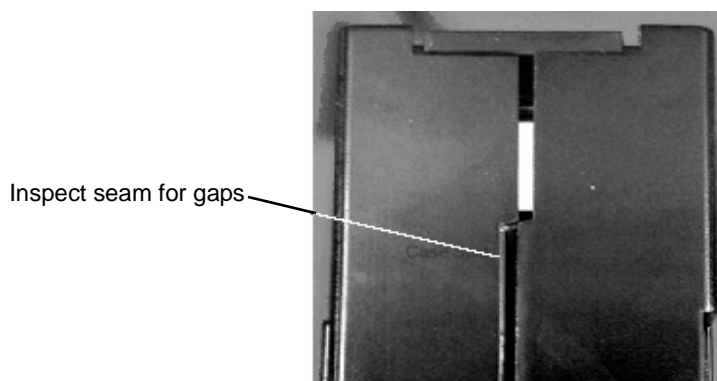

Figure 4-3 *Inspect the cartridge seams for gaps*
- ▶ Inspect the rear of the cartridge (the part that you load first into the tape load compartment) and ensure that there are no gaps in the seam of the cartridge case (see Figure 4-3). If there are gaps in the seam, the leader pin may be dislodged. Contact Exabyte Technical Support for assistance (see "Contacting Exabyte" on page iv).